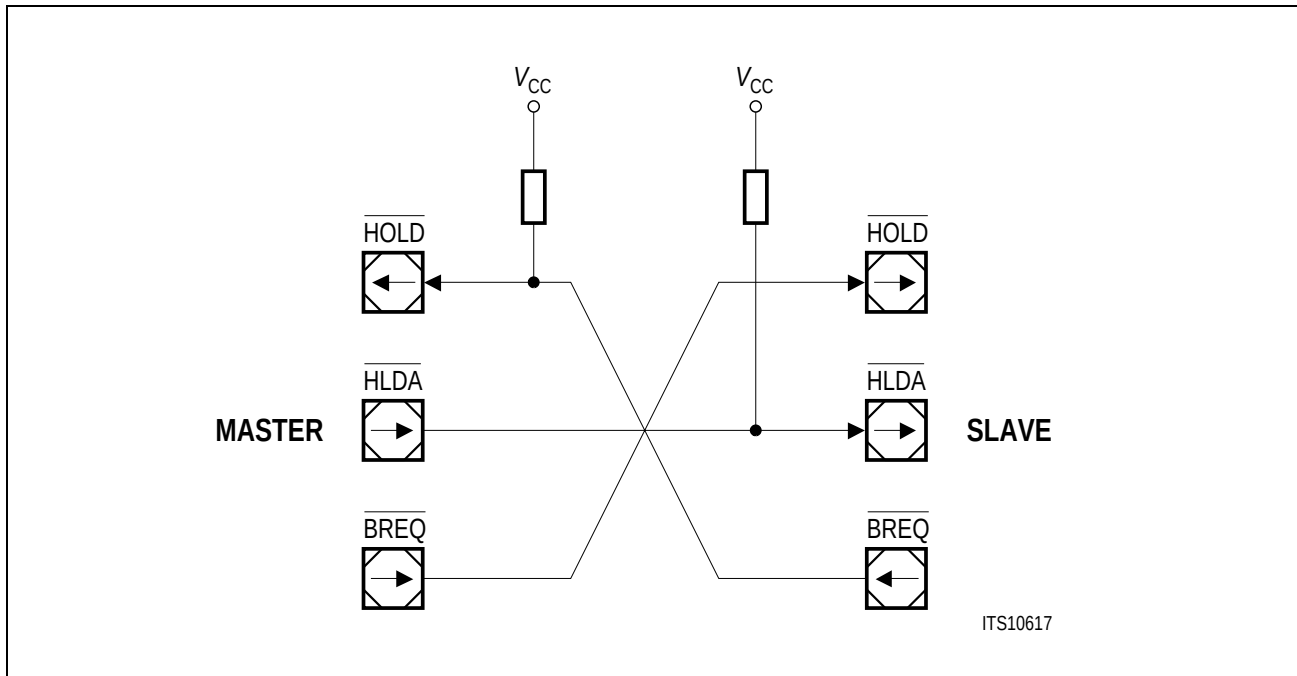

**Figure 31 Connection of the Master and Slave Bus Arbitration Signals**
**Figure 31** below shows the correct connection of the bus arbitration signals between the master and the slave. In order to provide correct levels during initialization of the master and the slave, two external pull-up devices are required. One is connected to the master's  $\overline{\text{LHMOLD}}$  input, the other to the slave's  $\overline{\text{LHMDA}}$  input.